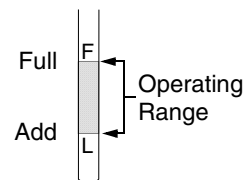

Figure 46
- Always keep the oil level between the 'F' (full) and the 'L' (add) marks on the dipstick. See Figure 46.
- SLOWLY pour oil into the crankcase until the oil level reaches the “FULL” mark on the dipstick. Refer to Figure 46.